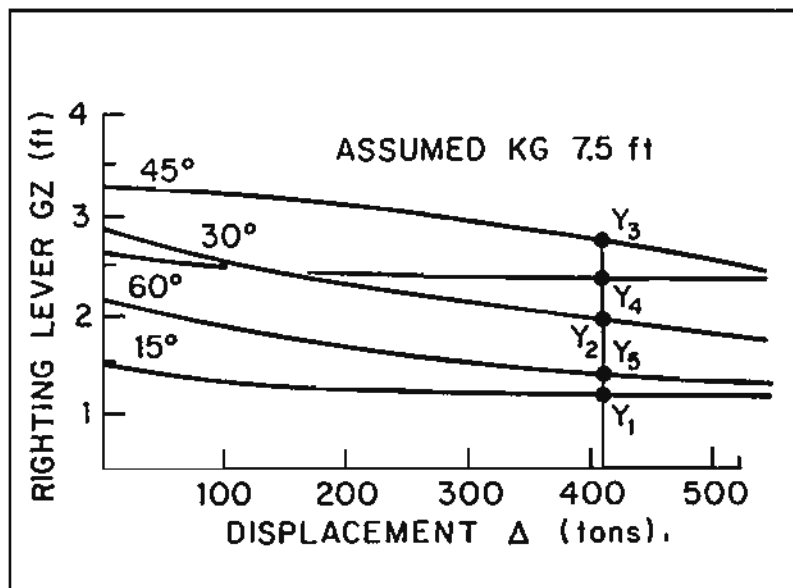
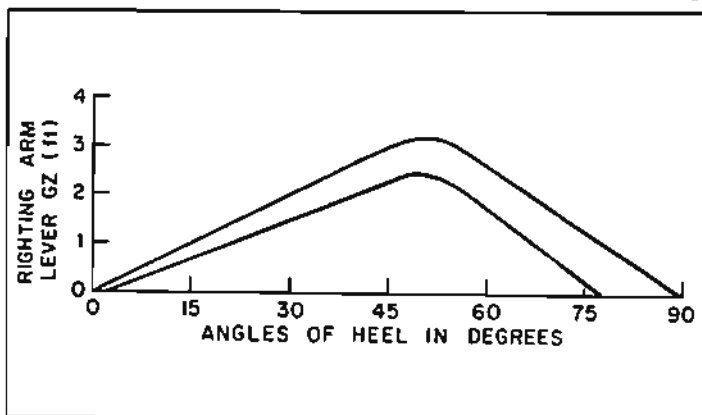

Figure 11-13. Cross curves of stability.
Figure 11-14. (A) Uncorrected stability curve taken from cross curves. (B) Corrected stability curve.
To facilitate stability calculations, the designer inclines a lines drawing of the fishing vessel at a given angle, and then lays off on it a series of waterlines. These waterlines are chosen at evenly spaced drafts throughout the probable range of displacements. For each waterline the value of the righting arm is calculated, using an *assumed* center of gravity rather than the *true* center of gravity. A series of such calculations is made for various angles of heel - usually 15°, 30°, 45°, 60°, 75° - and the results are plotted on a grid to form a series of curves known as the *cross curves of stability* (Figure 11-13). Note that, as draft and displacement increase, the curves all slope downward, indicating increasingly smaller righting arms.
The cross curves are used in the preparation of stability curves. To take a stability curve from the cross curves, a vertical line (such as line MN in Figure 11-13) is drawn on the cross curve sheet at the displacement which corresponds to the mean draft of the vessel. At the intersection of this vertical line with each cross curve, the corresponding value of the righting arm on the vertical scale at the left can be read. Then this value of the righting arm at the corresponding angle of heel is plotted on the grid for the stability curve. When a series of such values of the righting arms from 15° through 75° of heel have been plotted, a smooth line is drawn through them and the *uncorrected* stability curve for the vessel at that particular displacement is obtained. The curve is not corrected for the actual height of the vessel's center of gravity, since the cross curves are based on an assumed height of G. However, the stability curve does embody the effect on the righting arm of the freeboard for a given position of the center of gravity.
Figure 11-14 shows an uncorrected stability curve (A) for the fishing vessel operating at 415 tons displacement, taken from the cross curves shown in Figure 11-13. This stability curve cannot be used in its present form, since the cross curves are made up on the basis of an *assumed* center of gravity. In actual operation, the fishing vessel's condition of loading will affect its displacement and, therefore, the location of G. To use a curve taken from the cross curves, therefore, it is necessary to correct the curve for the *actual* height of G above the keel (K) - that is, it is necessary to use the distance KG. As far as the new center of gravity is concerned, when a center of gravity can be found by taking moments of the old system plus that of the new weight and dividing this total moment by the total final weight.